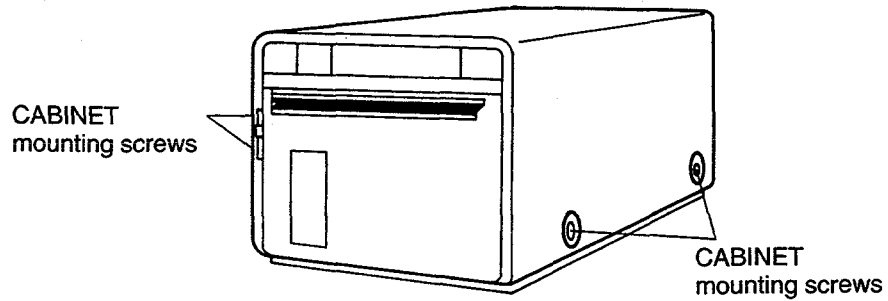

Fig.1-1
1. Remove the 4 screws securing the CABINET. (Fig.1-1)
1. Remove the CABINET. (Fig.1-1)
1. Remove the CABINET.(Fig.1-1)